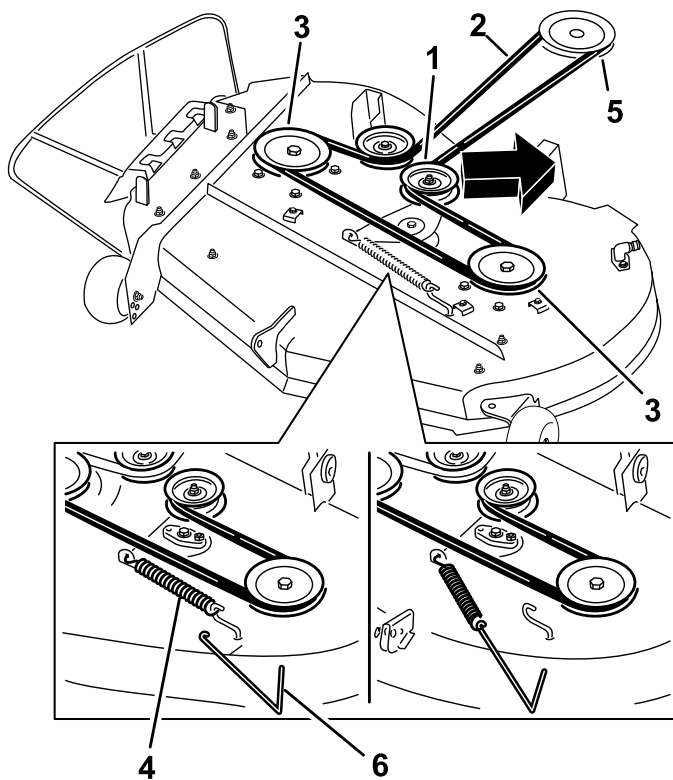
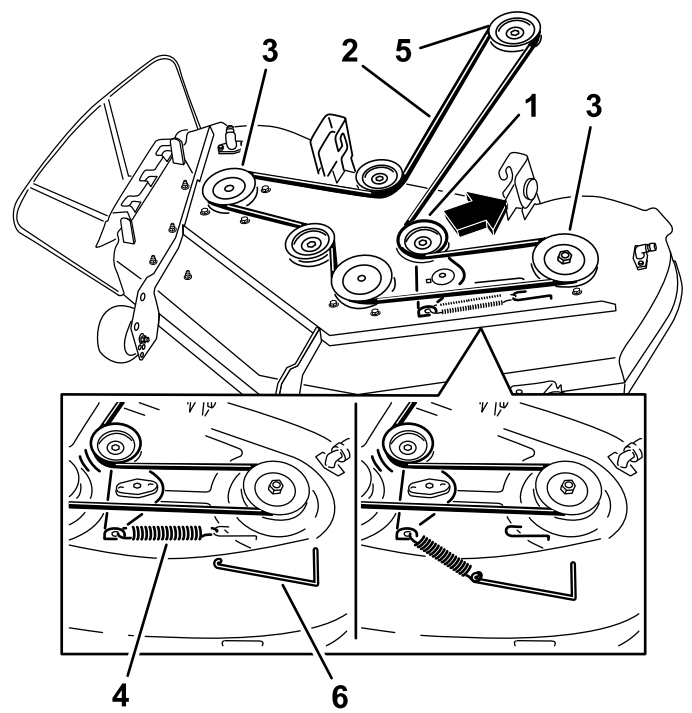

Figure 50
Figure 51
- Using a spring-removal tool, (Toro Part No. 92-5771), remove the idler spring from the deck hook to remove tension on the idler pulley, and roll the belt off the pulleys (Figure 50 and Figure 51).
6. Route the new belt around the engine pulley and mower pulleys (Figure 50 or Figure 51).
7. Using a spring-removal tool, install the idler spring over the deck hook, and place tension on the idler pulley and mower belt (Figure 50 or Figure 51).